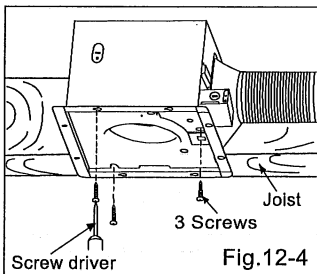
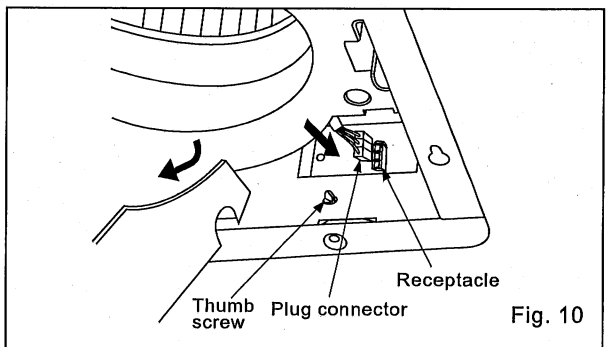

Fig.12-4
Fig. 10
6. Open the orifice cover, secure the fan body to adaptor by using thumb screw and plug connector to receptacle. (Fig.10)
5. Secure the adaptor to fan body by using thumb screw. (Fig.10)
8. Secure the blower. (Fig.12-4) and plug connector to receptacle. (Fig.10)